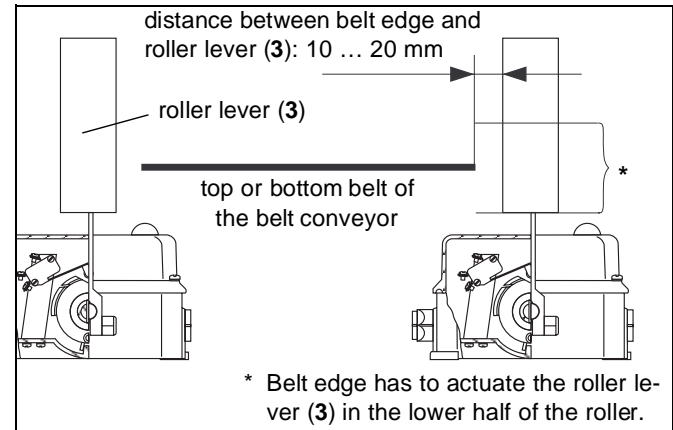

Fig. 5-1: Mounting belt misalignment switches on the belt conveyor in pairs
Belt misalignment switches of the type HES are installed in pairs at the top belt in front of the driving cylinder, at the bottom belt in front of the deflection cylinder and additionally at critical locations in plants with wide axle spacing or at transfer stations (see also Fig. 5-1).
**Mount the belt misalignment switch so that the belt edge actuates the roller lever (3) in the lower half of the roller in case of off-track running. Thus, it is prevented that the belt slides over the roller lever (3) (see Fig. 5-1).**
Belt misalignment switches of the type HES are installed in pairs at the top belt in front of the driving cylinder, at the bottom belt in front of the deflection cylinder and additionally at critical locations of plants with wide axle spacing or at transfer stations (see Fig. 5-1).
In order to prevent swift wear of the roller lever (3), the roller lever (3) should be so aligned that it is approximately 10 to 20 mm before the belt edge (see Figs. 5-1 and 5-3).
3. Place the roller lever (3) on the shaft (14).
In order to prevent too fast wear of the new roller lever (3), the roller lever (3) should be so aligned that it is approximately 10 to 20 mm before the belt edge (see Fig. 5-1).
3. Place the new roller lever (3) on the shaft (14).